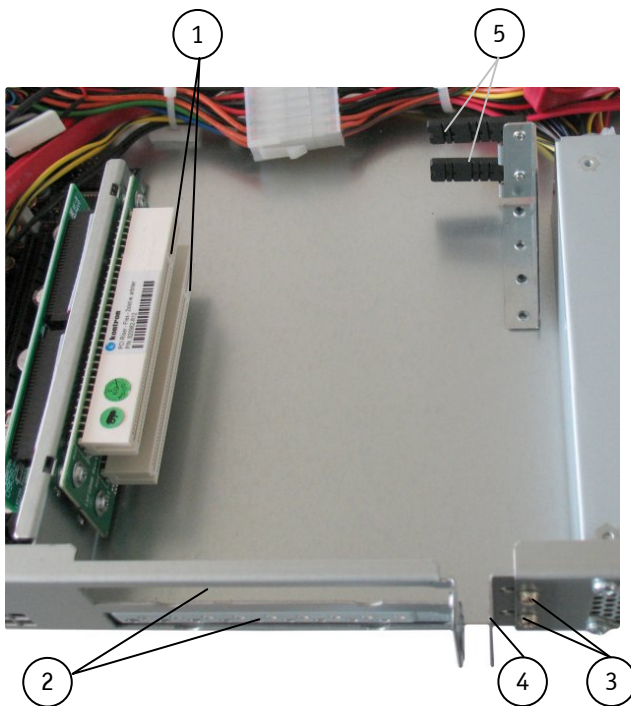

Fig. 20: Detail with opened slide brackets for 2x PCI-card slots (Config. with KTGM45)
Legend for Fig. 20 and Fig. 22:
9. Move the slide bracket (Fig. 20, pos. 4) to the right until it rests firmly on the brackets of the expansion cards and the slot bracket, respectively.
11. Secure the slide bracket position with the fastening screws (Fig. 20, pos. 3)